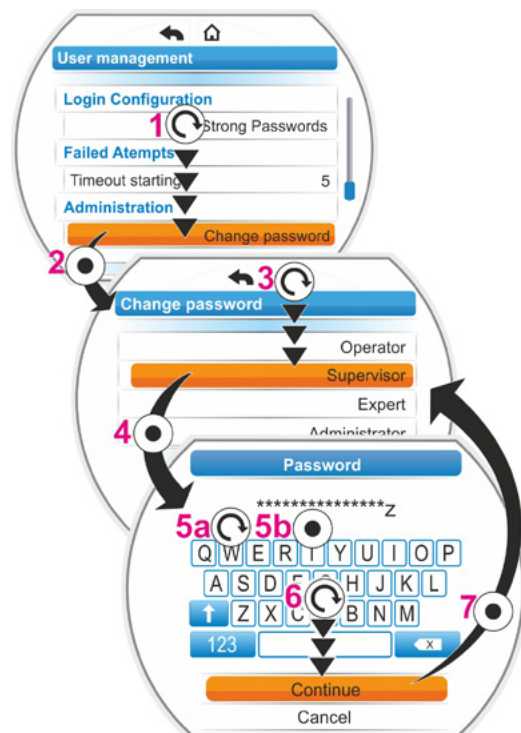

Fig. 2: Assign password to a user level
- Confirm selection (fig. 2, item 4).
- a) Select the first character (letter or digit) of the new password: Turn Drive Controller and set orange marker to the desired character (fig. 2, item 5a).
- b) Press Drive Controller (fig. 2, item 5b).